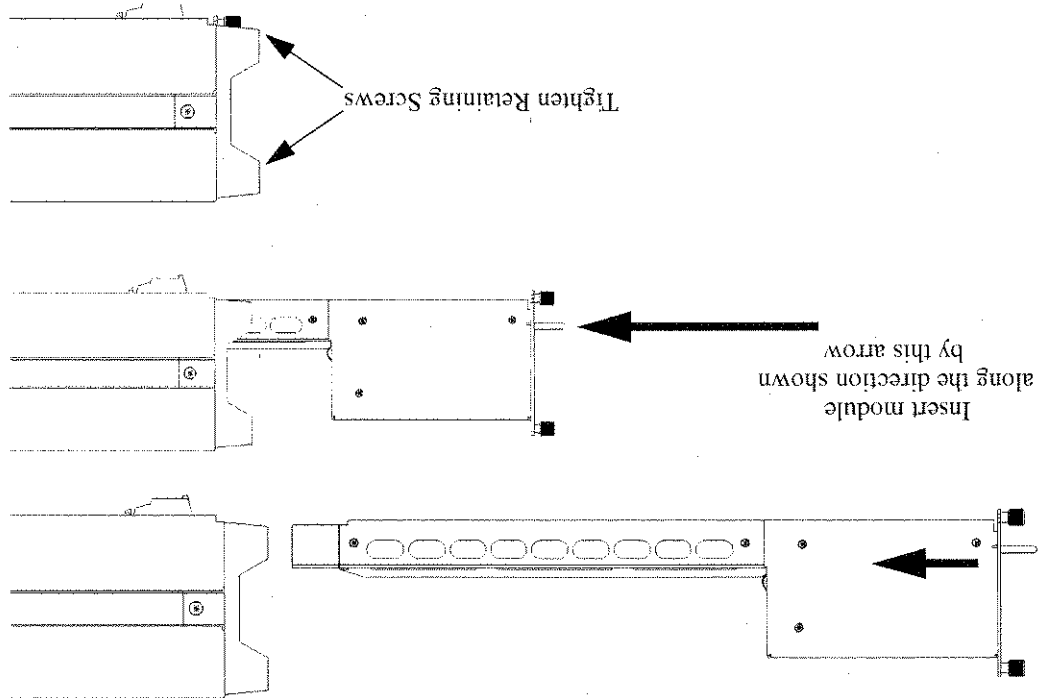

Figure 160 Fitting a Back-Loadable Module
- 1 Position the module at the rear of the instrument as shown in Figure 160.
- 3 If you insert the module at an angle or vertically, you may damage the instrument and the module. You should insert the module along the direction shown by the arrow in Figure 160.